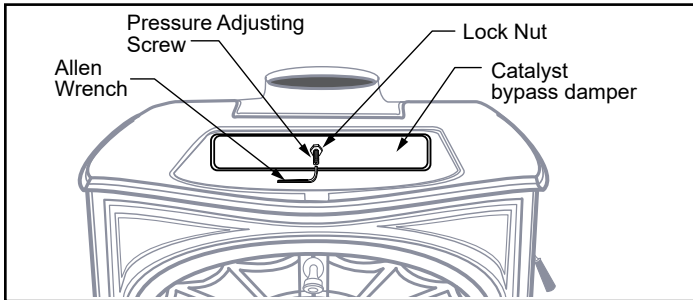

Figure 6.2 - Adjust the catalyst bypass damper with the Allen wrench.
1. Remove the griddle. Loosen the lock nut at the center of the catalyst bypass damper, Figure 6.2.